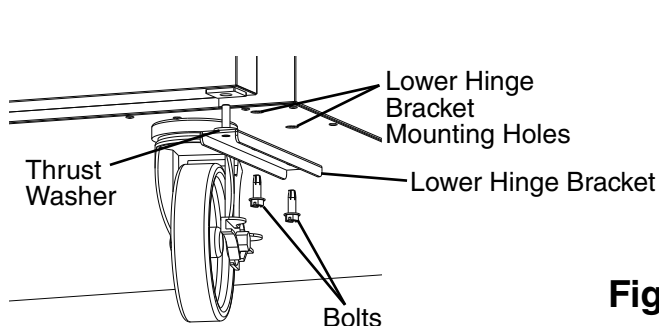
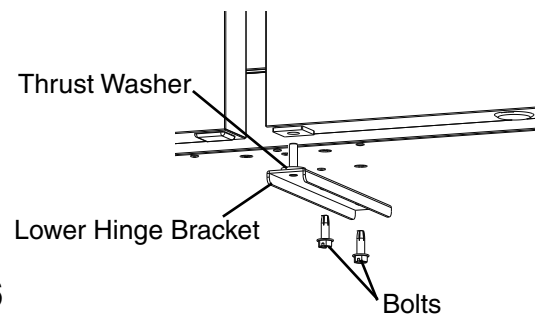

**Fig. 4**
**Fig. 5**
- 2) With the door closed, loosen, but do not remove, the upper hinge bracket outer screw. See Fig. 4. Next, open the door to the fully open position and remove the upper hinge bracket inner screw. See Fig. 5.